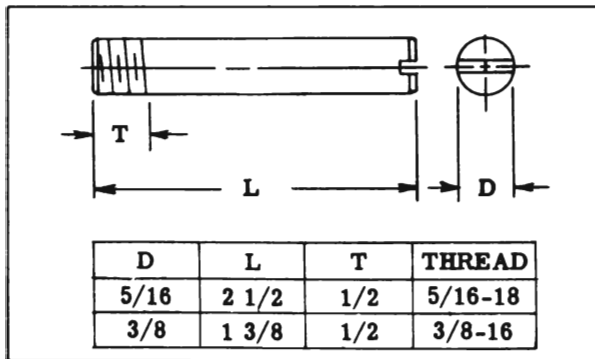
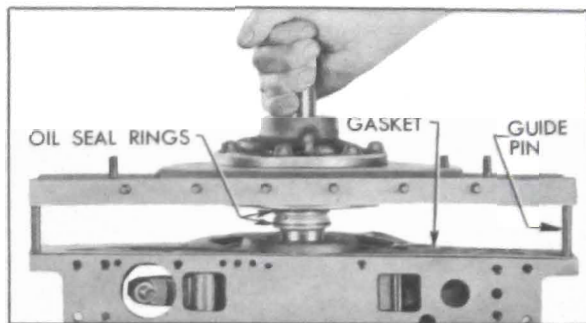

Figure 5-87—Guide Pins
Figure 5-95—Installing Reaction Shaft Flange and Gasket
6. Prepare two $\frac{5}{16}$ "x2 $\frac{1}{2}$ " guide pins and two $\frac{3}{8}$ "x1 $\frac{3}{8}$ " guide pins with screwdriver slot in plain end, as shown in figure 5-87. These will be used for alignment of parts during assembly.
1. Install a $\frac{5}{16}$ " guide pin (fig. 5-87) in accumulator bolt hole at each end of flange on transmission case. See figure 5-95.
4. Make certain that oil seal rings are on flange hub, then install flange assembly on case using care to avoid damaging oil seal rings. See figure 5-95.
2. Install two $\frac{5}{16}$ " guide pins (fig. 5-87) in transmission case to guide each end of servo body, and install servo body spacer plate gasket over guide pins.
14. Install a $\frac{5}{16}$ " guide pin (fig. 5-87) at each end of transmission case and install a new oil pan gasket over guide pins. Install oil screen on suction pipe.